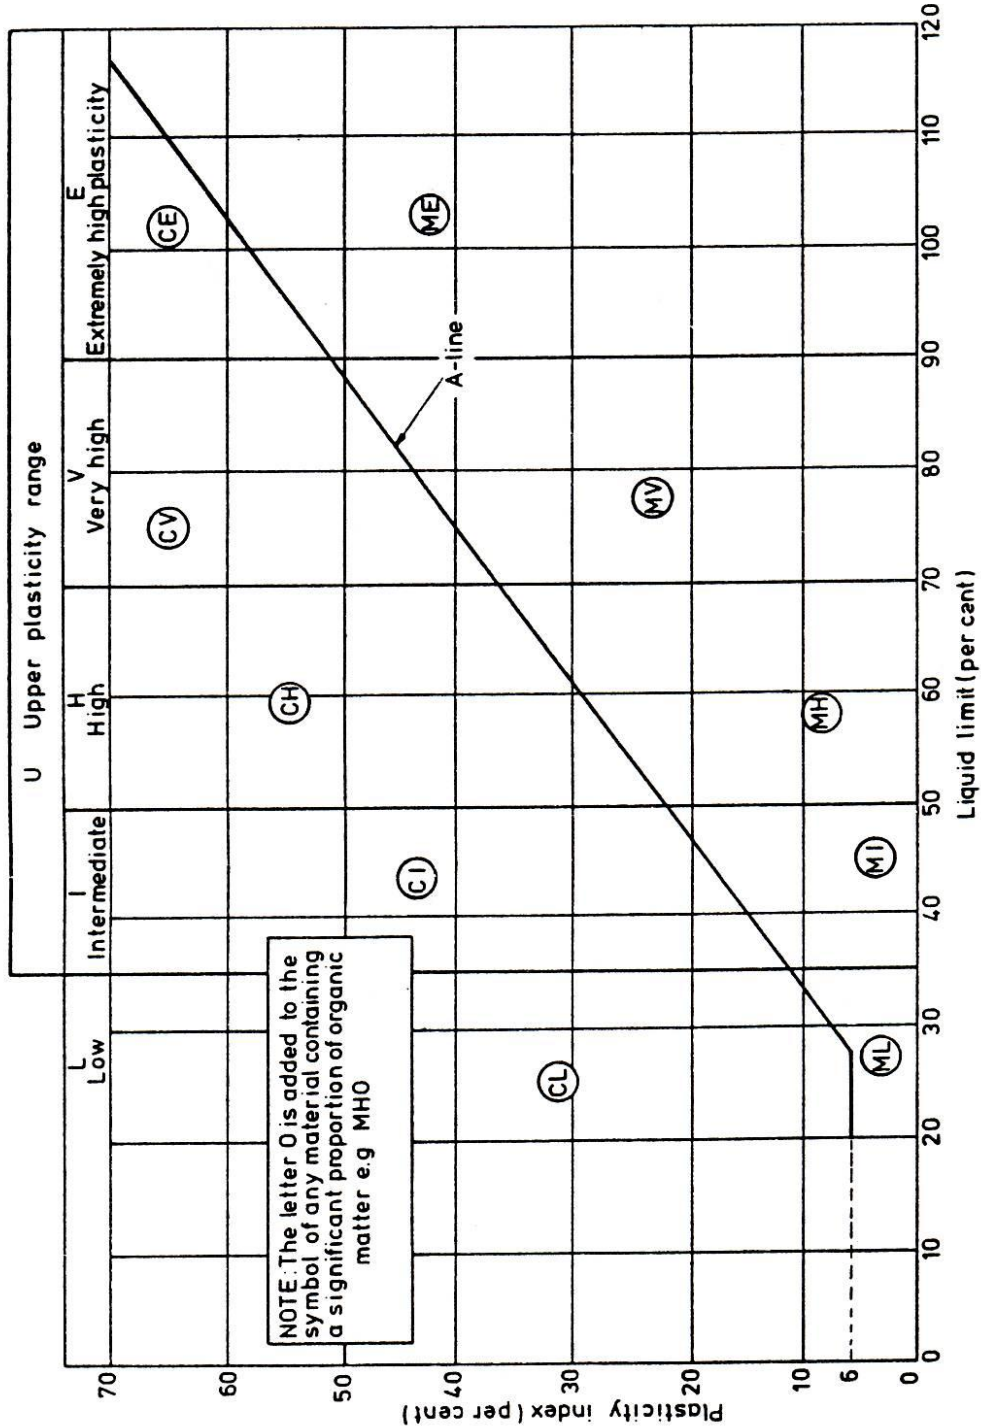

Figure Q3-2
- (ii) Provide a soil classification name and symbol for this soil using Fig.Q3-2. (2 marks)